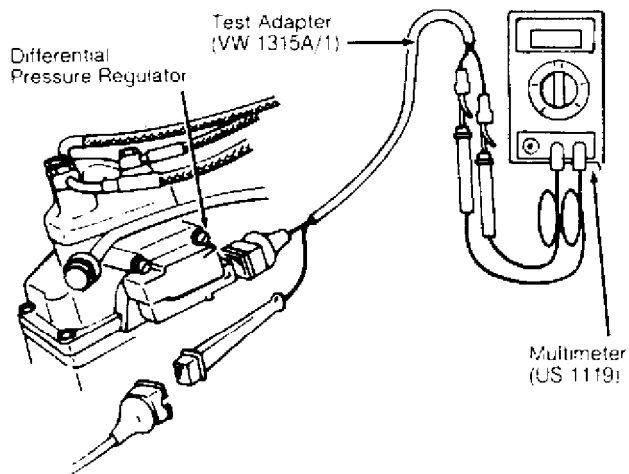

Fig. 3: Making Digital Multimeter Hook-Up
7) Remove CO probe receptacle cap and connect CO meter. Ensure fit is snug to prevent exhaust leaks. Connect Digital Multimeter (US 1119) with Adapter (VW 1315 A/1) to differential pressure regulator. See Fig. 3.